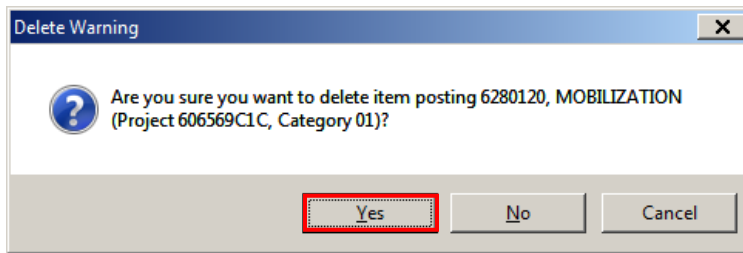

Figure 7-14. Postings Tab - Delete Posting Warning
5. Click the **Yes** button on each Delete Warning message (Figure 7-14). You will receive a Delete Warning for each item posting.